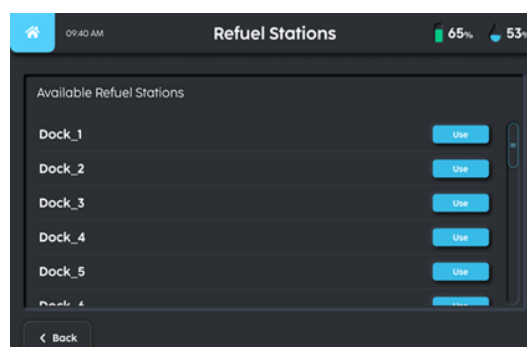

FIGURE 3-24
5. Choose the Refuel Station that you want to manually dock the robot to (Fig. 3-24).